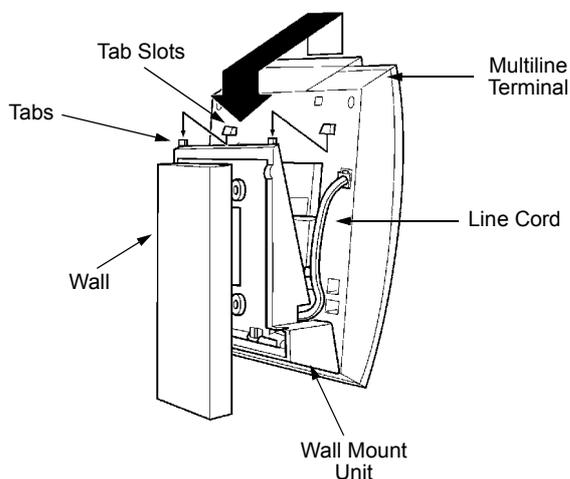

Figure 7-67 Attaching the Top Tabs of the Multiline Terminal to the Base Plate
9. Push up on the Multiline Terminal and lock the top tabs on the base cover into the tab slots on the base of the Multiline Terminal. Turn terminal slightly clockwise to interface with base cover. *Figure 7-67 Attaching the Top Tabs of the Multiline Terminal to the Base Plate* shows how the Multiline Terminal is attached.